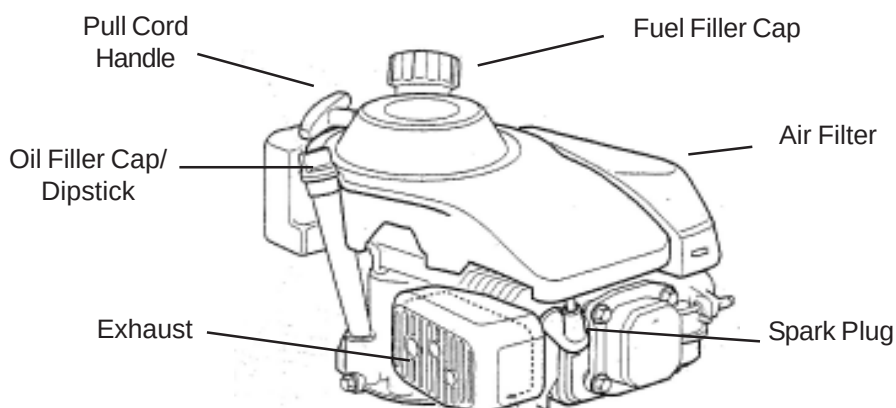

Figure 3
- Put Mountfield 4-stroke, or an SAE 10W-30 oil, in the oil filler (Figure 3). Do not overfill, the oil tank capacity is 0.55 litre. Mountfield oil, part number MX855, is available from any Mountfield stockist or B&Q store.